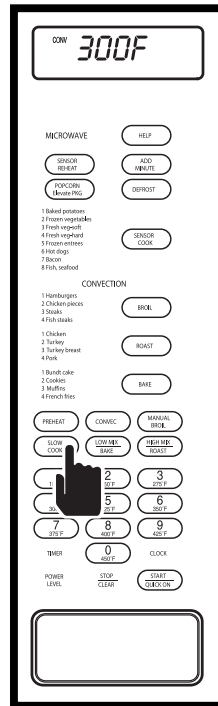

Figure 3-85.
1. Press SLOW COOK key, “300F - 4HOURS - PRESS - START ” will flash on display. (See Figure 3-85)